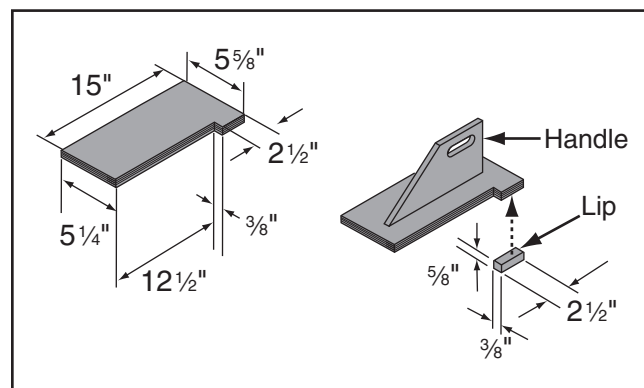

Figure 131. Push block dimensions and construction.
3. Using $\frac{1}{2}$ " material you used in previous steps, cut out pieces for push block per the dimensions shown in **Figure 131**; for handle, cut a piece 10" long by 5"–9" high and shape it as desired to fit your hand.